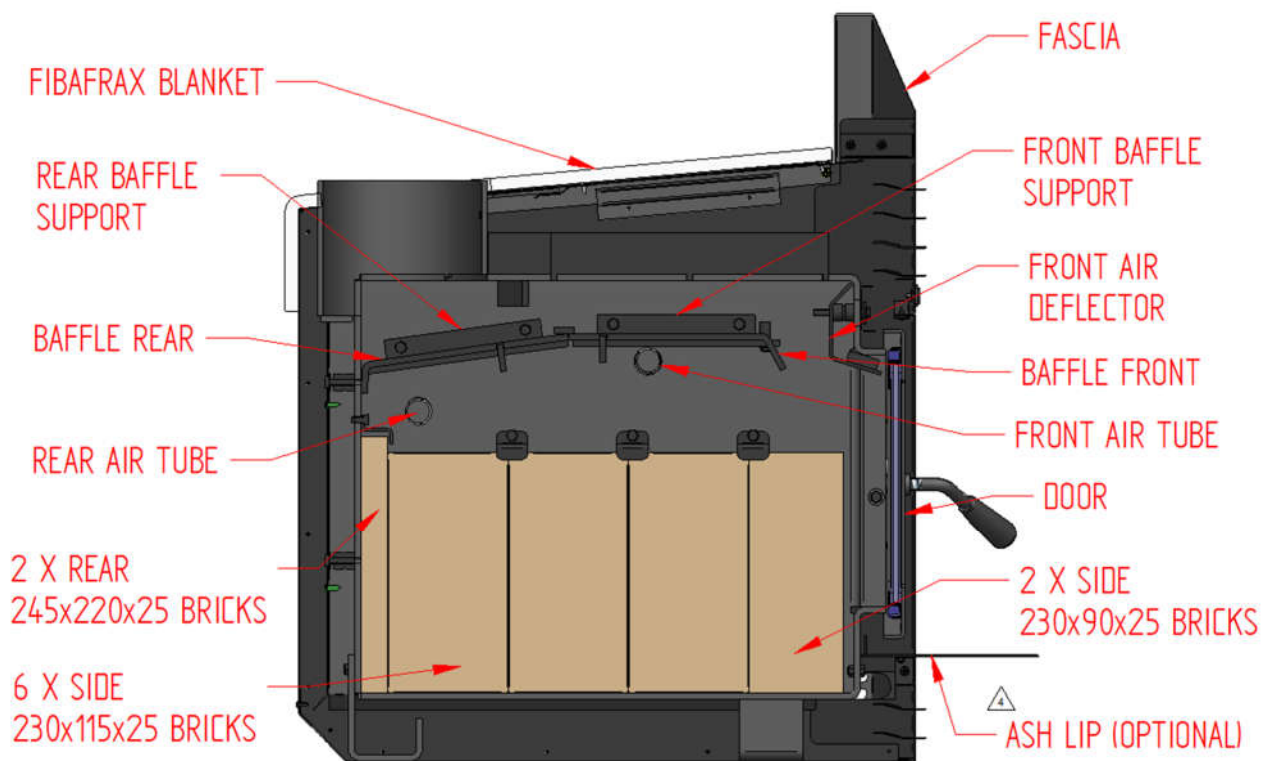

Fig. 9 - Rangitata Firebox Internal Component Configuration
- Refer Fig. 9 to check the configuration of all internal firebox components.